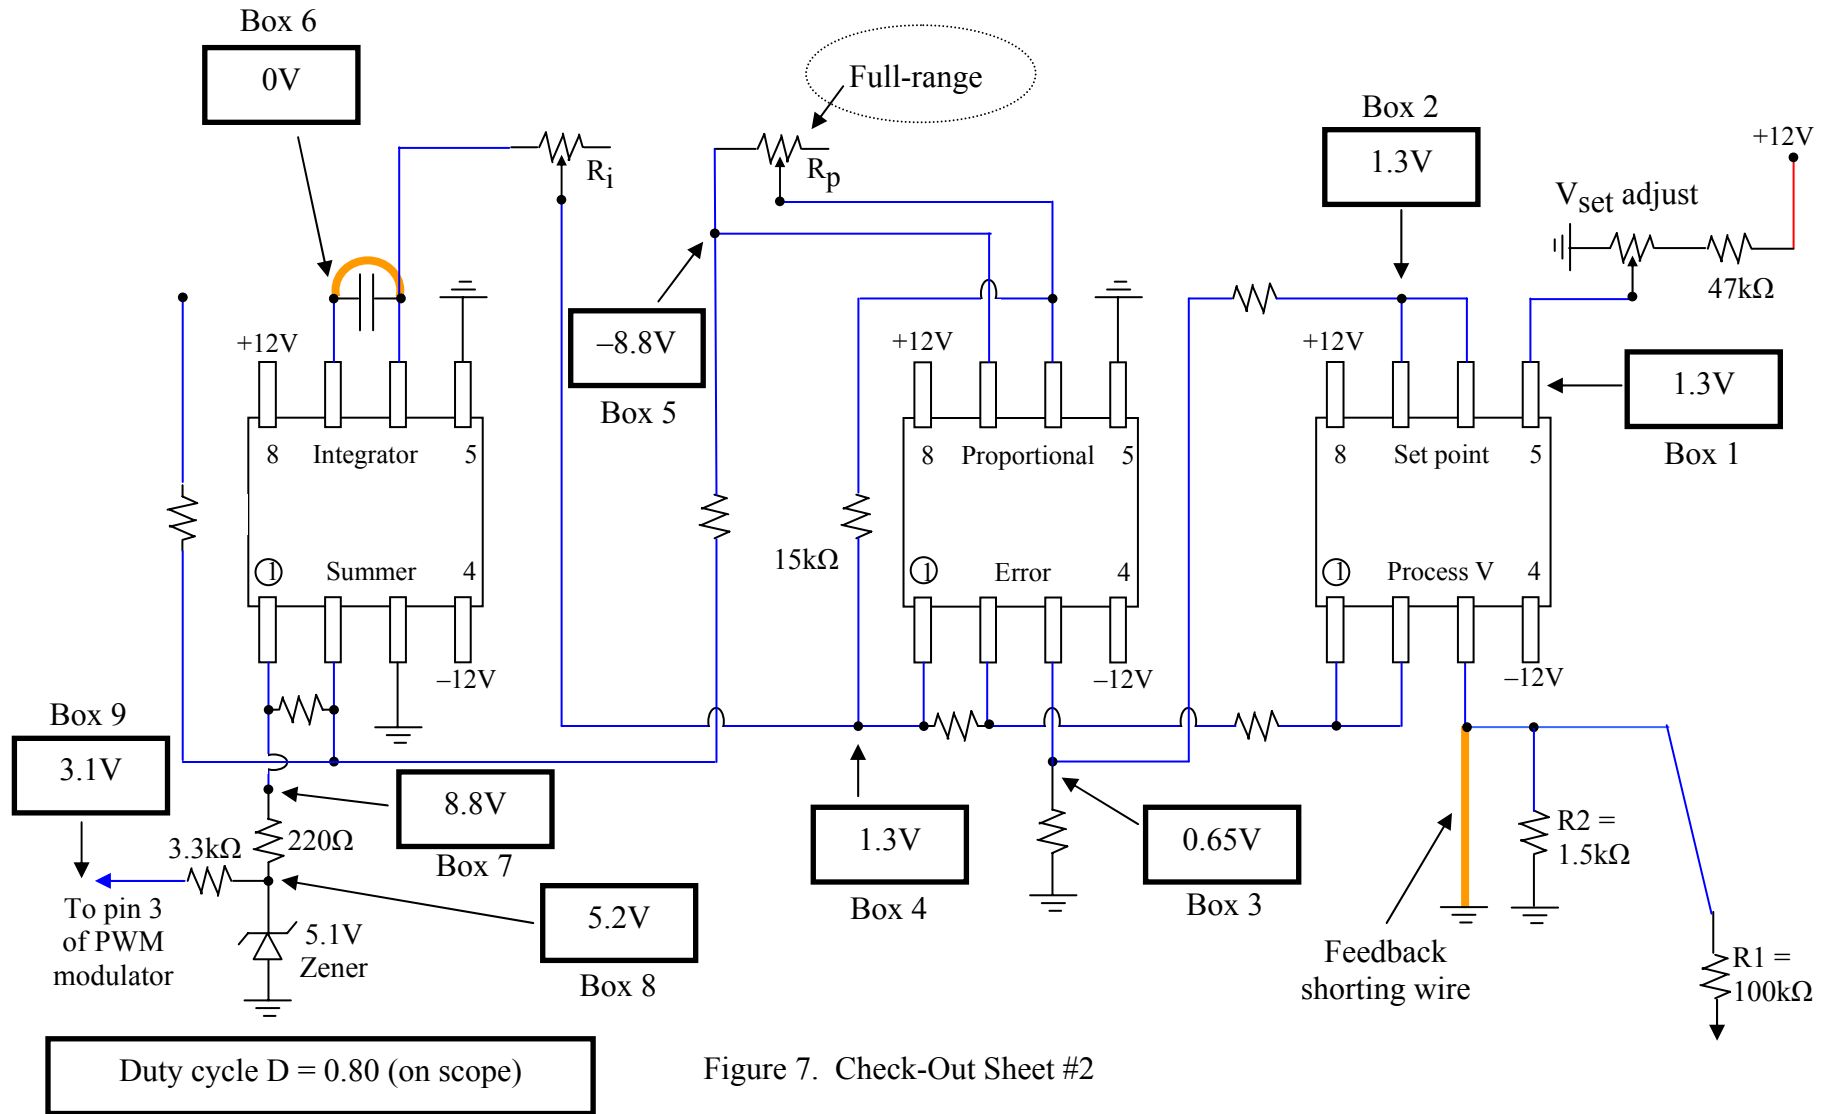

Figure 7. Check-Out Sheet #2
10. Raise R_p to full range. Then, take and compare voltage measurements to those shown in Boxes 5 – 9 of Figure 7 (Check-Out Sheet #2). Measure D on an oscilloscope. As shown in Figure 7, D should be approximately 0.80. When finished, lower R_p so that D is again 0.50.